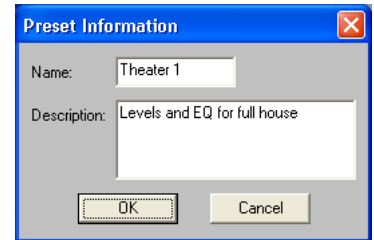

FIGURE 4-3: “Preset Information” Dialog
6. The “Preset Information” dialog will appear, as pictured to the right in Figure 4-3.